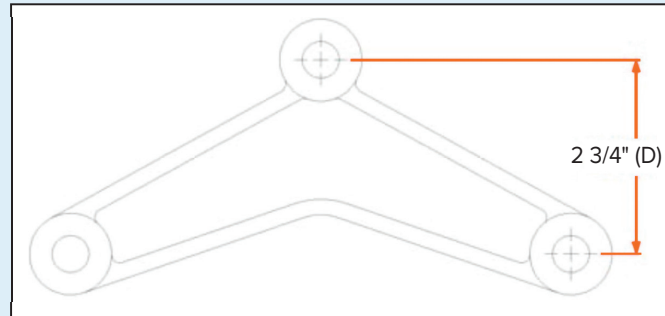

figure 6
If the height of the stock equalizer is **greater than** 2 3/4" (D) as shown in figure 6, complete the following dimension checks:
If the height of the stock equalizer is **less than** 2 3/4" (D) as shown in figure 6, complete the following dimension checks: